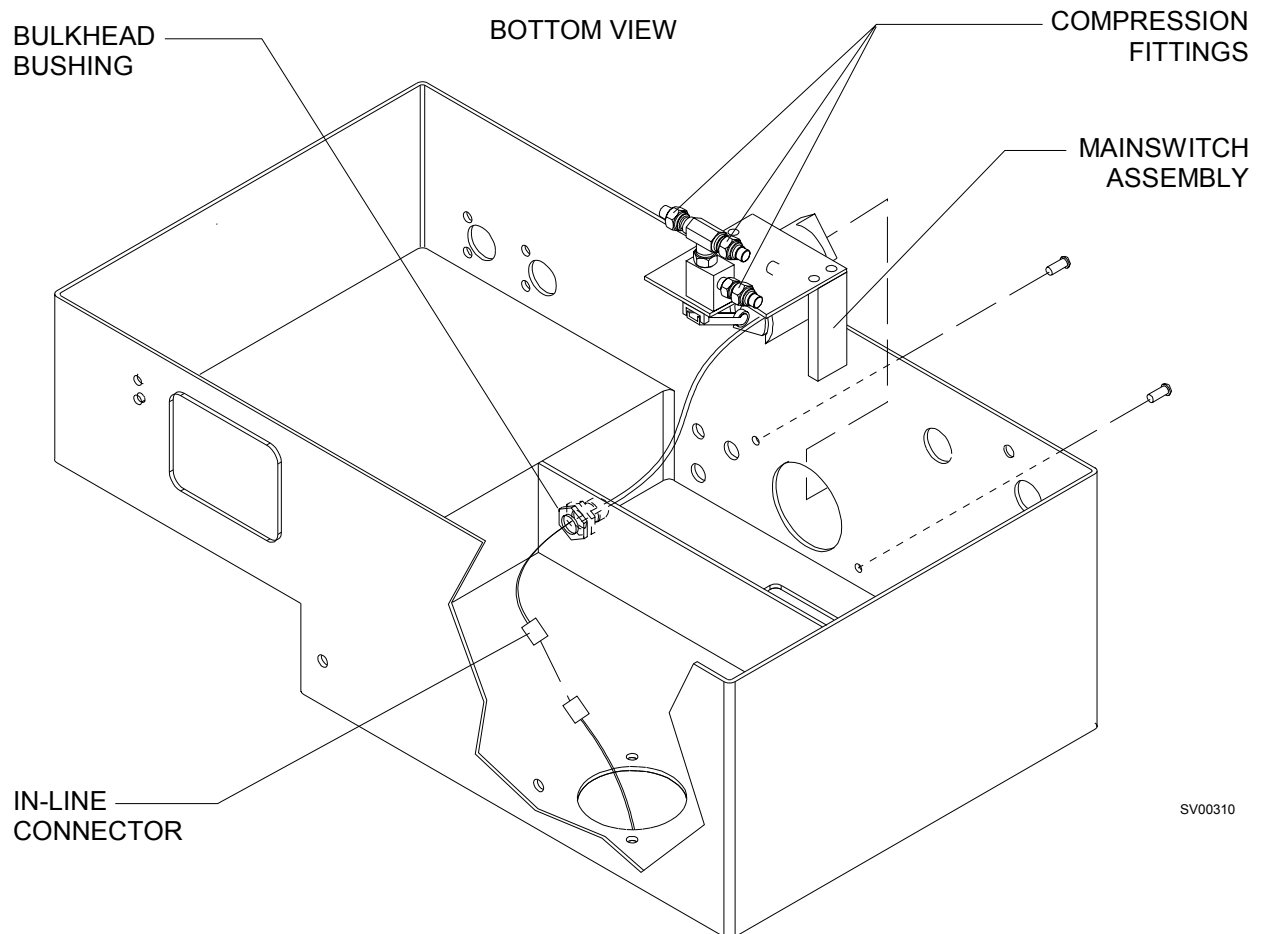

Figure 4-9. System Power Switch
The system power switch assembly is located in the power supply housing. Access to the switch assembly requires that the machine be separated from its support frame, and removal of the power supply. Figure 4-9 shows the connection and mounting arrangement for the switch assembly.
- 4.9.14 Disconnect the tubing at the three compression fittings on the switch assembly (see Figure 4-9).